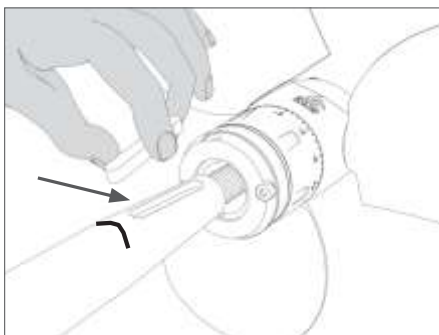

FIG. 12 Inserting the key on the shaft
- Insert the key on the shaft (**Fig. 12**).